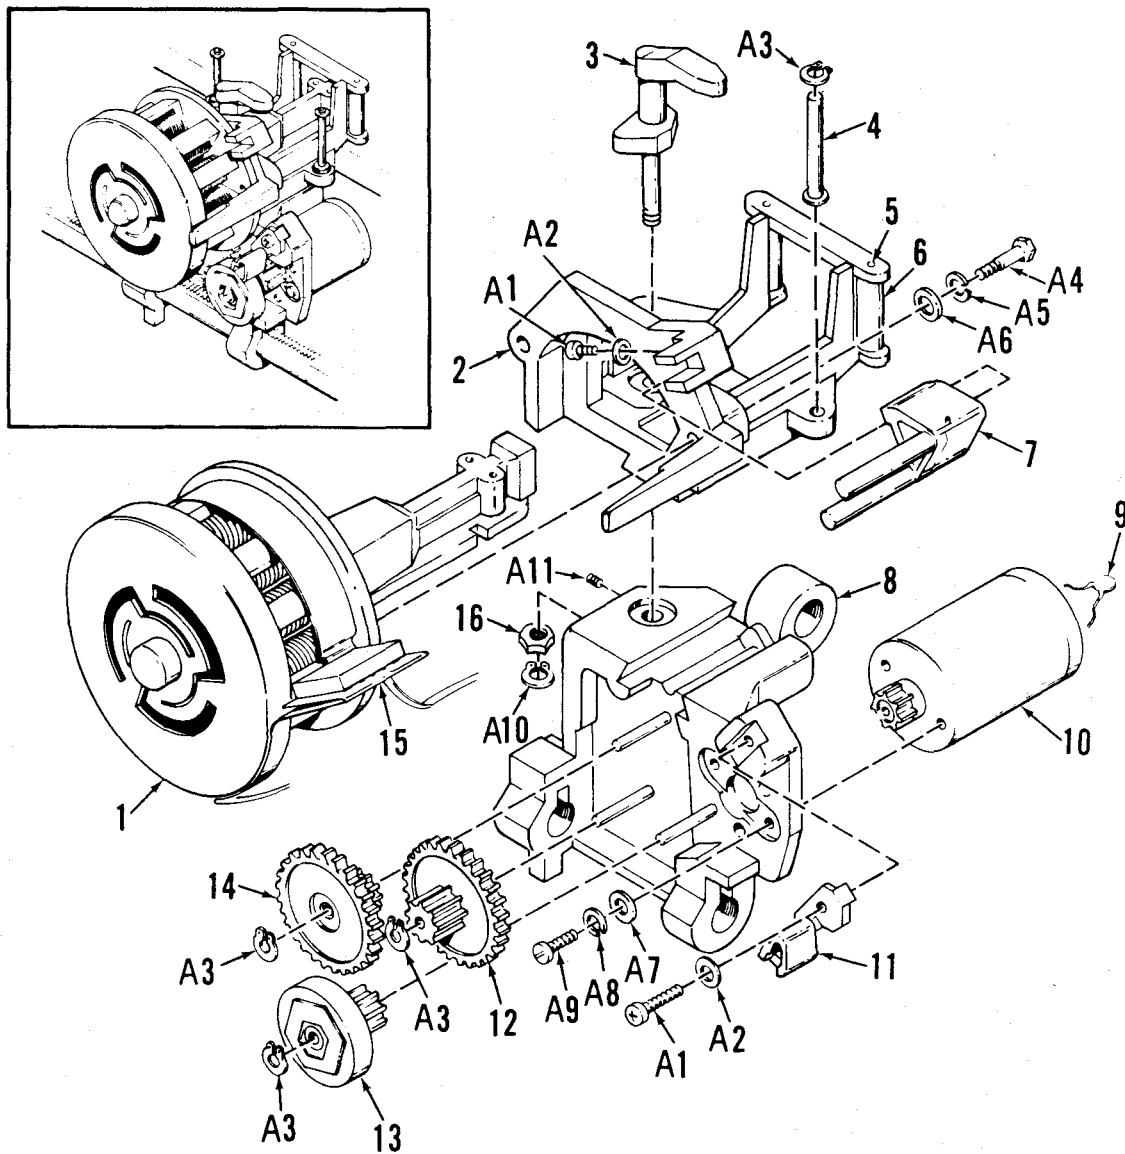

Figure 8-4. PRINT HEAD/CARRIAGE ASSEMBLY
(Figure 8-4)
NOTE: The motor drive assembly is made up of items 10.1 and 10.2 which are not called out on Figure 8-4.
NOTE: The rotor assembly is made up of items 13.1 and 13.2 which are not called out on Figure 8-4.